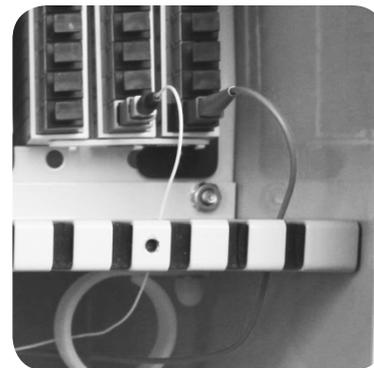

Figure 26
14. Connect the distribution fiber to the appropriate port on the IDEAA Splitter Module. Use the foam fiber relief to route the distribution fiber to the fiber routing section of the IDC, employing a similar technique to that used with the input jumper cable. **(Figure 26)**